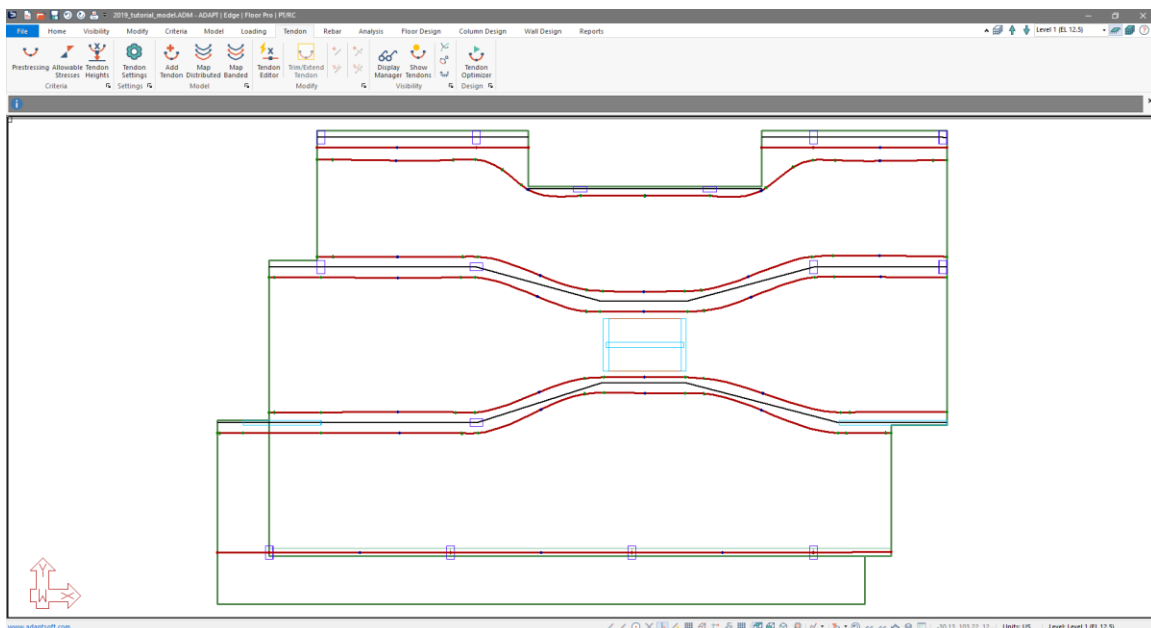

Figure 9-54
- Do the same to the other tendon in this location. Note that you will need to reenter the swerve point for this span and readjust it in order to smooth out the curve of the tendons. This has been done in the final X-direction tendon plan shown in **FIGURE 9-54**.